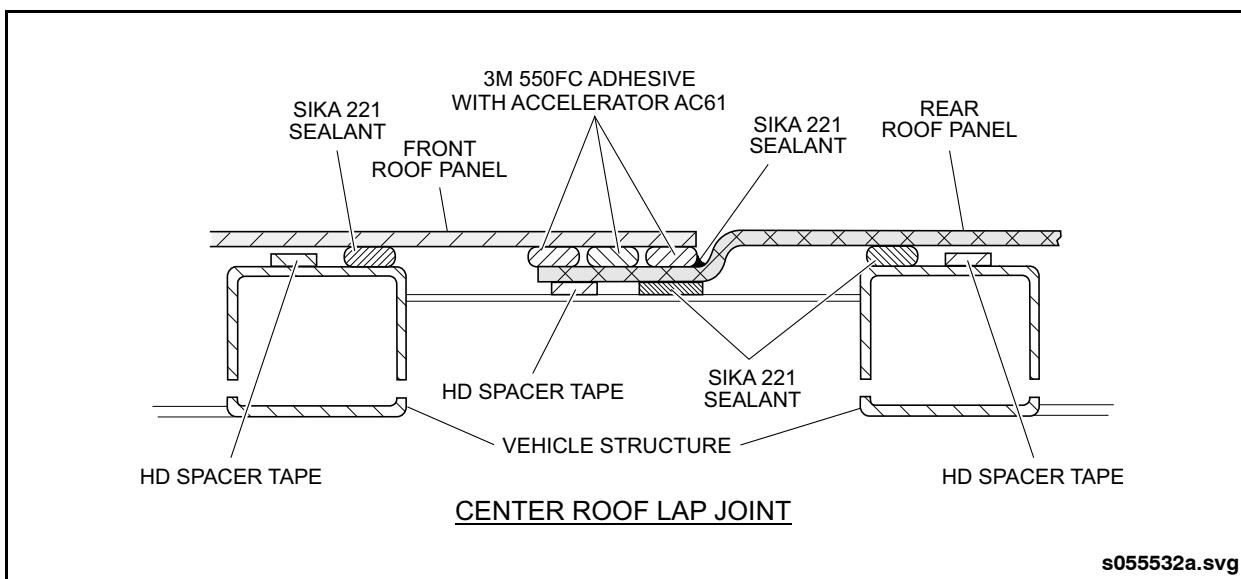

Fig. 13-7: Roof Panel Cross Section
17. Apply a continuous circular bead of 550FC Adhesive/AC61 Accelerator Sealant near outer edge of center lap joint. Apply a second continuous circular bead near the inner or forward edge. Apply a stitch bead (six inches of adhesive with a 6" gap) to the area between the continuous beads. See "Fig. 13-7: Roof Panel Cross Section" on page 22.